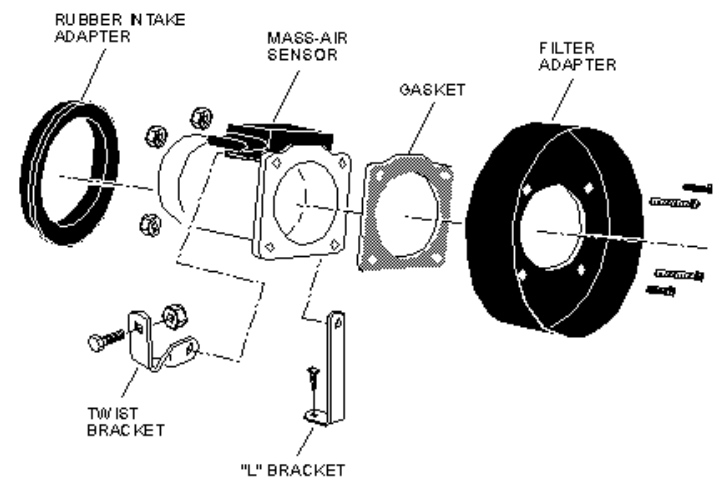

fig. 2
- 7) Using the provided fasteners assemble the filter adapter, gasket, mass-air sensor and both brackets as shown in (fig. 2).
- 8) Slide the rubber adapter onto the mass-air sensor (see fig. 2).